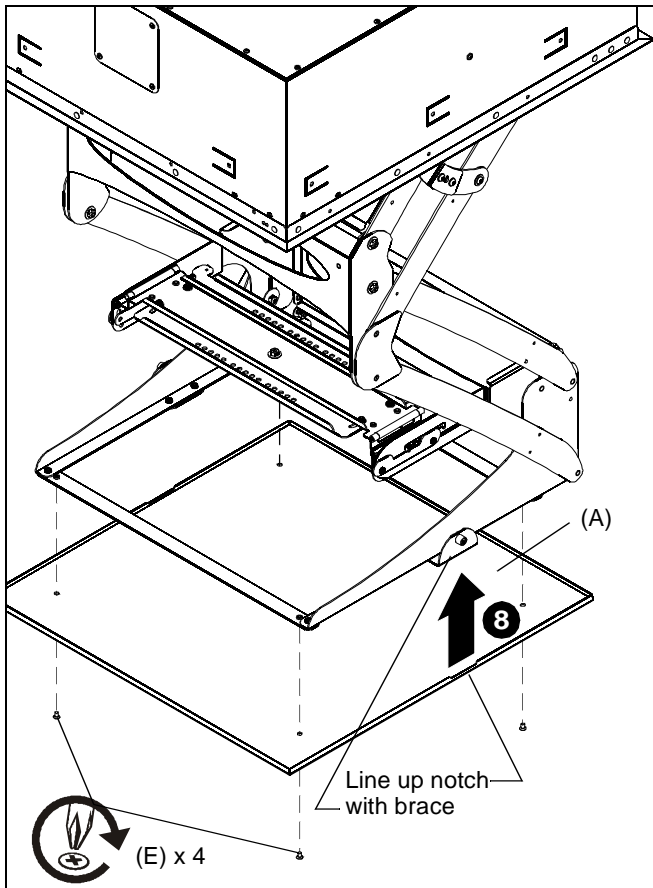

Figure 5
**NOTE:** The 8-32 x 3/16" Phillips pan head screws (D) may be used as replacement for the screws removed in Step 6, if necessary.
8. Attach ceiling door (A) using four 10-24 x 5/16" Phillips flat head screws (E). (See Figure 5)
**NOTE:** Be sure that side notches in ceiling door (A) line up with side braces on SL-236. (See Figure 5)